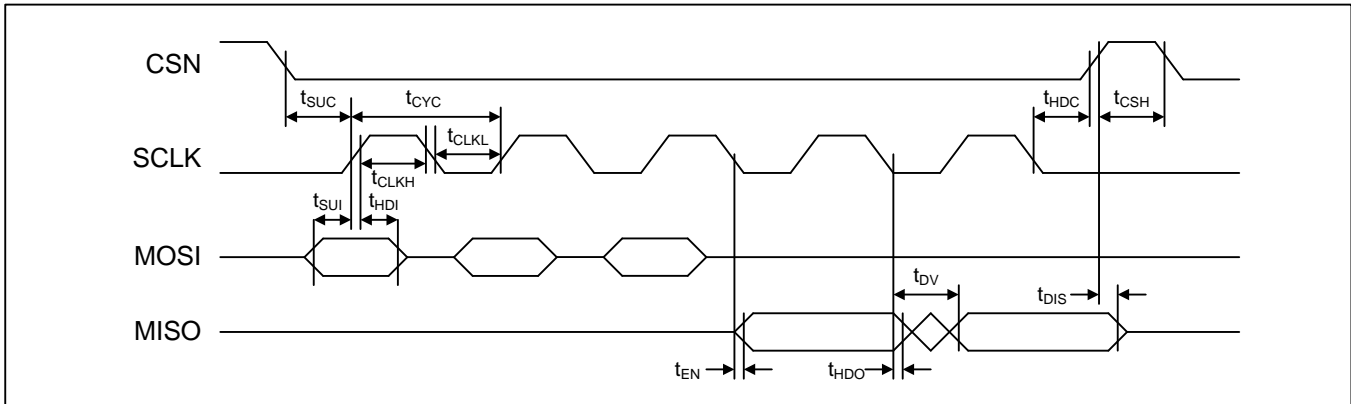

Figure 10 - SPI Slave Interface Timing
- Note 3:** See timing diagram in Figure 10.